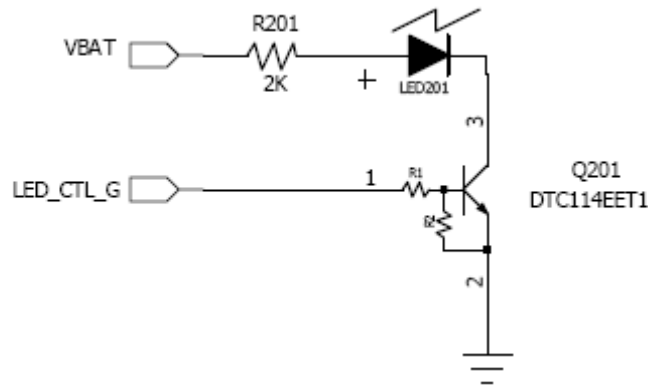

Figure 2-12 The reference circuit of LED control
The reference circuit for LED is shown in Figure 2-12.
- 1) The LED pin (GPIO) controls the LED through a transistor, as is shown in Figure 2-12.
- 2) The reference value is 5mA. So the current-limiting resistor must be used. Just like the resistor R14 in Figure 2-12.